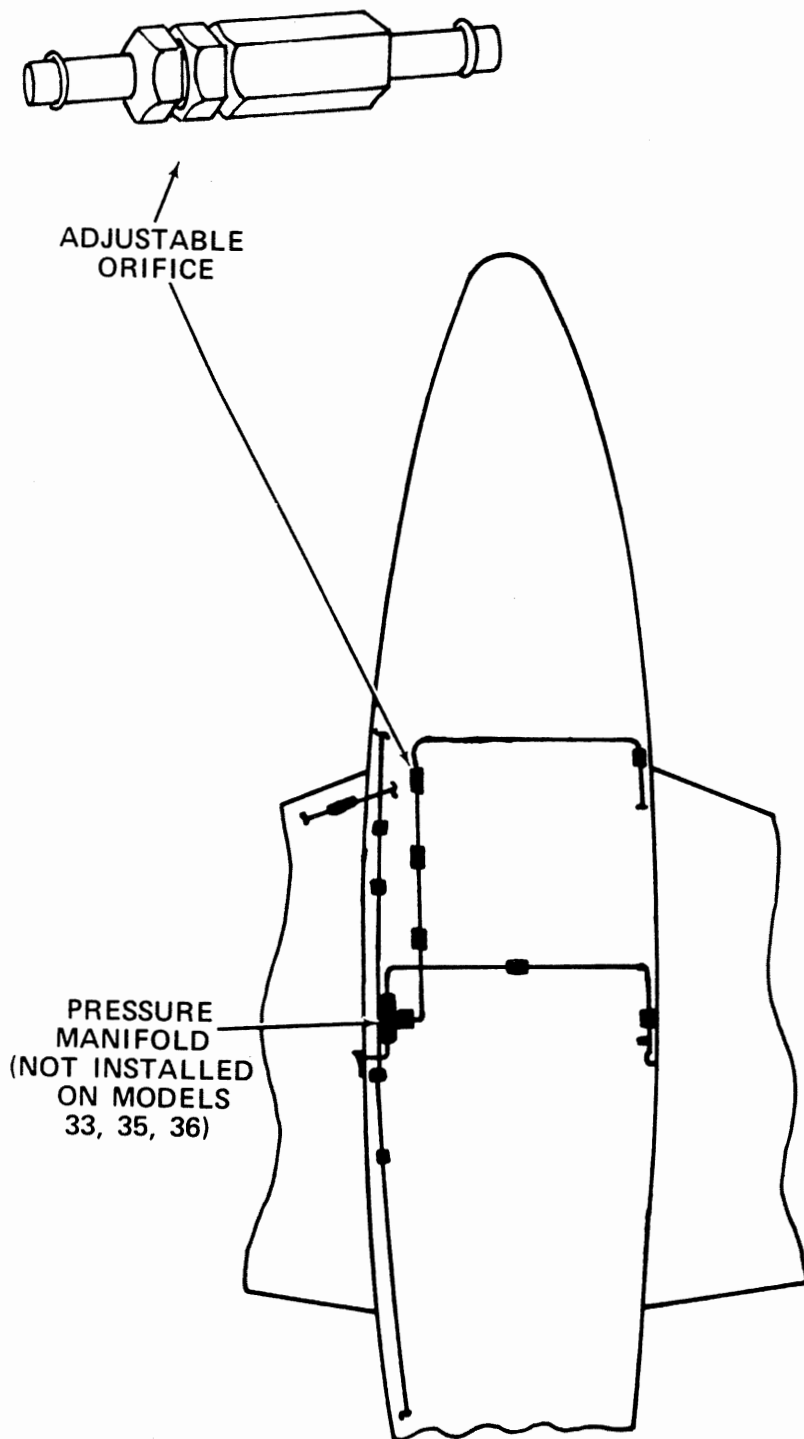

Figure 1
- f. Locate the gyro instrument adjustable orifice on the LH side of the aircraft, forward of the instrument panel, near the top of the upholstery panel. (See Figure 1.)
- f. Locate the gyro instrument adjustable orifice (see Figure 1) on the LH side of the aircraft, forward of the instrument panel, near the top of the upholstery panel.
- g. Locate the gyro instrument adjustable orifice (see Figure 1) on the LH side of the aircraft, forward of the instrument panel, near the top of the upholstery panel.